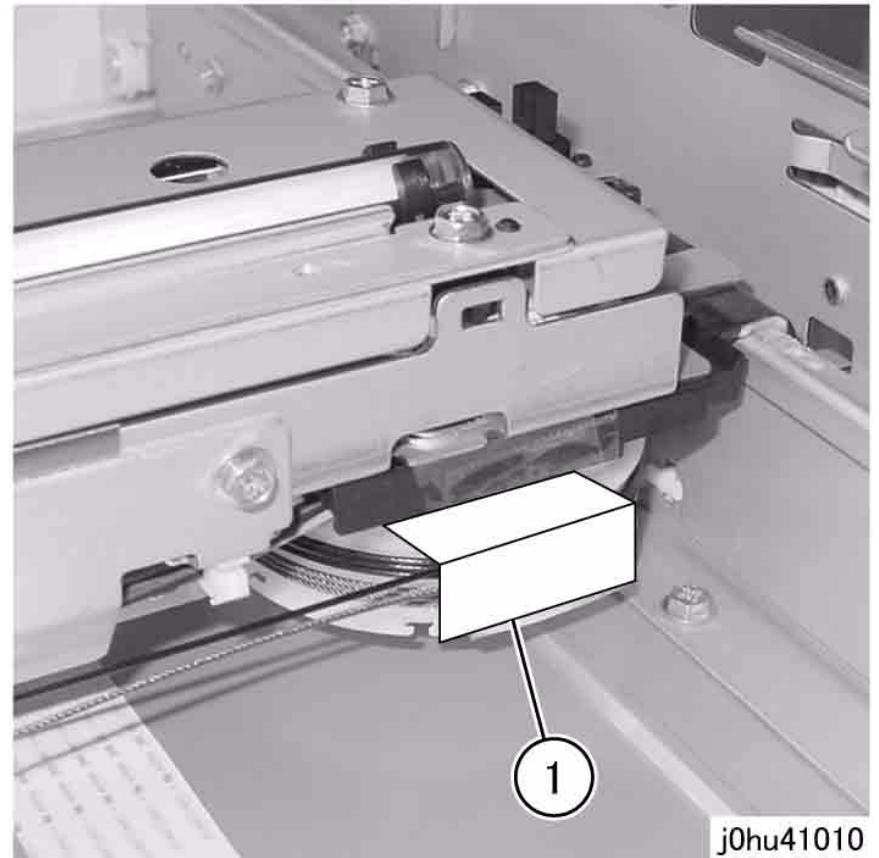

Figure 10 Secure Silver Carriage Cable
12. Use tape to secure the Carriage Cable (silver) that was disconnected in step 11 so that it does not get separated from the Cable Supply Drum (Figure 10).